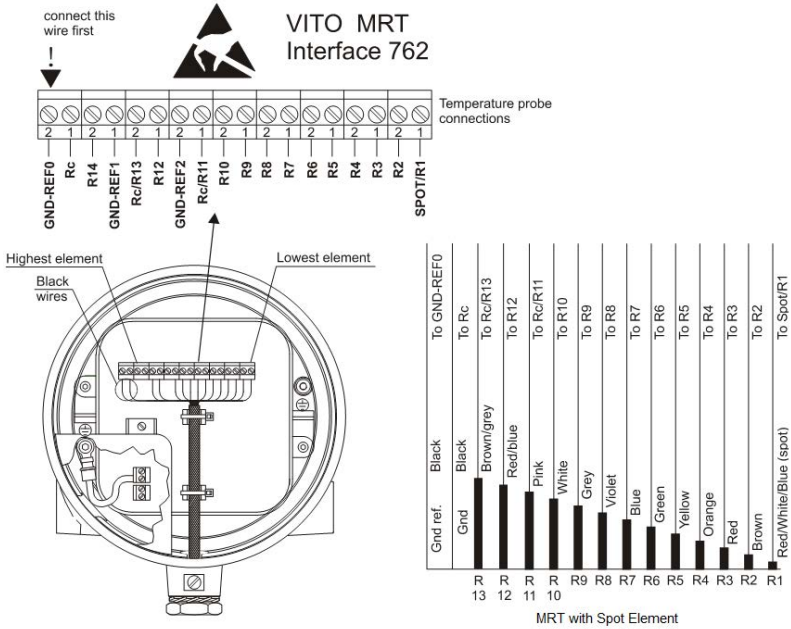

Figure 14 MRT probe connected to 762 VITO-MRT
- MRT as indicated in figure 14;